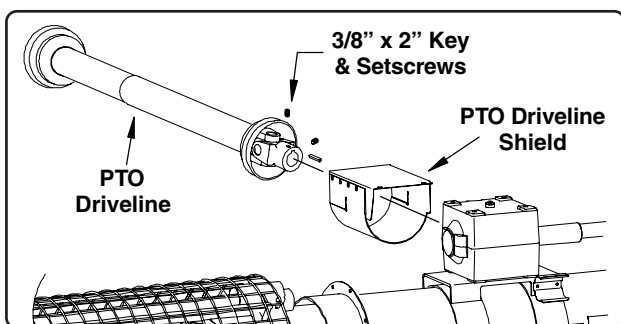

Fig. 29
2. Slide the PTO u-joint shield over the end of the PTO driveline. Install a 3/8" sq. x 2" long key into the keyway on the gearbox input shaft, apply anti-seize compound to the shaft and attach the 1 3/4" diameter bore end of the driveline to the input shaft (See Fig. 29).